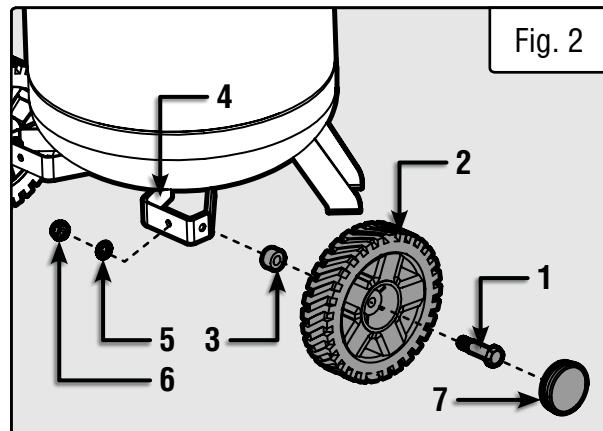

Fig. 2
1. Insert the bolt (Fig. 2 - 1) into the wheel (Fig. 2 - 2) through the 13mm flat washer (Fig. 2 - 3), wheel bracket (Fig. 2 - 4), and 10mm flat washer (Fig. 2 - 5). Tighten with M10x1.25 hex nut (Fig. 2 - 6). Attached the hub cap (Fig. 2 - 7) on the outside of the wheel. Repeat for both wheels.